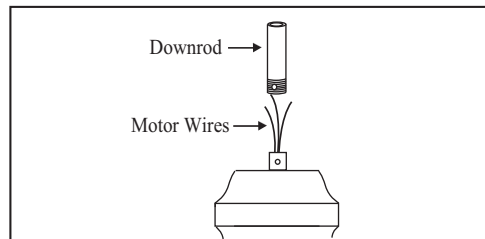

Figure 9
6. Carefully feed motor wires up through the downrod. Thread the rod into the coupling. Next line up holes and replace cotter pin and clevis pin. Tighten set screws. (Figure 9)